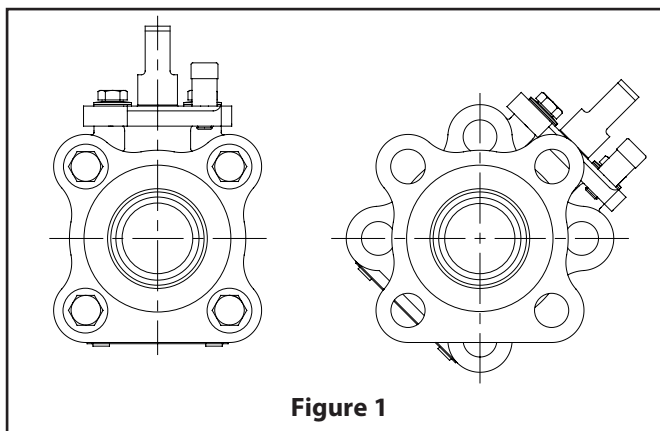
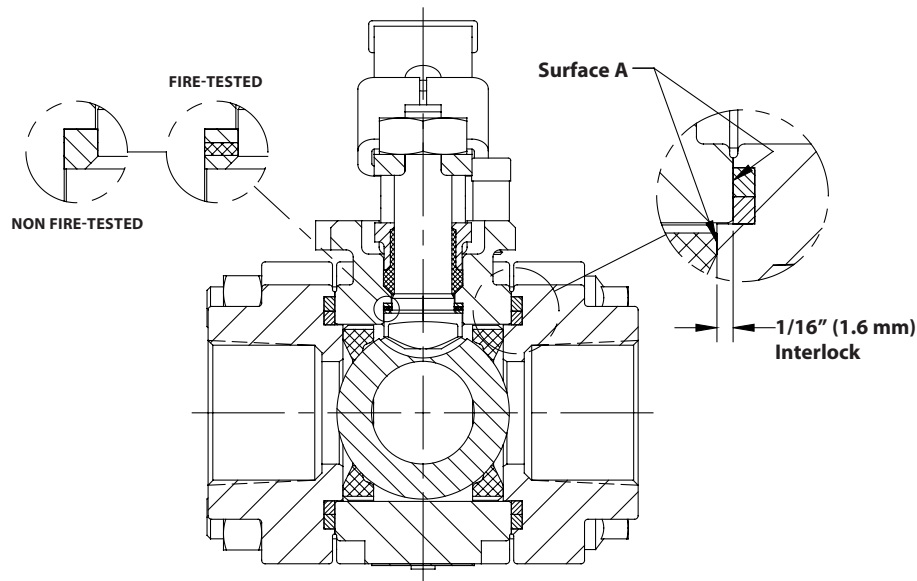

Figure 1
Figure 3
3. Remove the handle nut (16) and handle (17).
4. Loosen all four body bolts (52). Remove three from the valve. Leave the remaining bolt in place with the hex nut (53) backed off at least 1/4" (6.4 mm).
5. For positive alignment and ease of in-line assembly, each end cap is interlocked approximately 1/16" (1.6 mm) into the body as shown in **(Figure 3)**. To overcome this feature during in-line disassembly it is necessary to separate each cap at least 1/8" (3.2 mm) from the body. Sharply rap body and caps with a block of wood or plastic mallet to break loose body seal. Spread end caps and swing the body out of the line. If pipe does not allow simple spreading, remove the remaining body bolt and rotate center section per **(Figure 1)**. This will improve access to the end cap flange for ease of spreading. Swing the valve body (1) out from between the end cap (2). Be careful not to damage the sealing surfaces "A" **(see Figure 3)** at each end of the valve.
1. With the valve swung to the out-of-line position, insert from the inside of the body a stem bearing (13), a secondary stem seal (7), then another stem bearing (13) into the stem bore. For non-Fire-Tite valves use one stem bearing (24). See **(Figure 3)** and parts list **(Figure 4)**.
8. Place an inner body seal (6) and an outer body seal (18) into the machined sealing groove of the body cap (2) (see Figure 3). **NOTE:** On those valves with metal seats (DH seat/seal code), there is a one piece body seal (6). Be certain that the groove and seal are clean.
13. Bolt the valve together with lubricated body bolts (52) and hex. nuts (53). Tighten these bolts evenly and alternately. (See Table 1 for the torques.)
14. Attach the handle (17) and secure it with the handle nut (16) applying the torque shown in (Table 3).